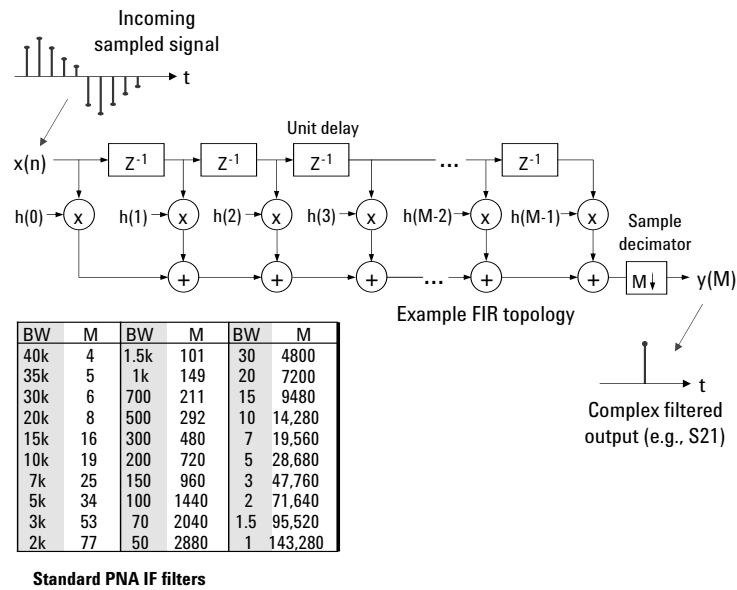

Figure 25. Finite impulse response (FIR) filter basics
The PNA's IF filters are implemented as FIR filters. Figure 25 shows an example FIR topology. The number of filter sections or "taps" (M) is variable, depending on the IF bandwidth. The narrower the bandwidth, the larger the required number of filter sections. M is also the minimum number of ADC samples required to produce one trace point. As the filter bandwidth narrows, more samples are required, resulting in longer measurement times. The table in Figure 25 shows M (the number of sections and the number of samples required) for each of the PNA's standard IF filter bandwidths. Once enough samples are taken to produce a trace point, the analyzer steps to the next point, which would be a new carrier frequency for point-in-pulse measurements, or a new delay value for pulse profiling. The tap weightings (filter coefficients) $h(n)$ control the shape factor or selectivity of the filter. In order to implement the "spectral nulling" technique, it will be necessary to create non-standard or custom IF filters, with M values that fall between those listed in the table.